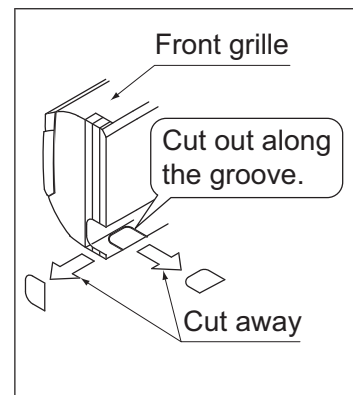

Fig. 5
- (3) If using the left, bottom-left, right, or bottom-right positions for piping, cut out the through-hole for the piping in the front grille using such as a box cutter. (Refer to Fig. 5)